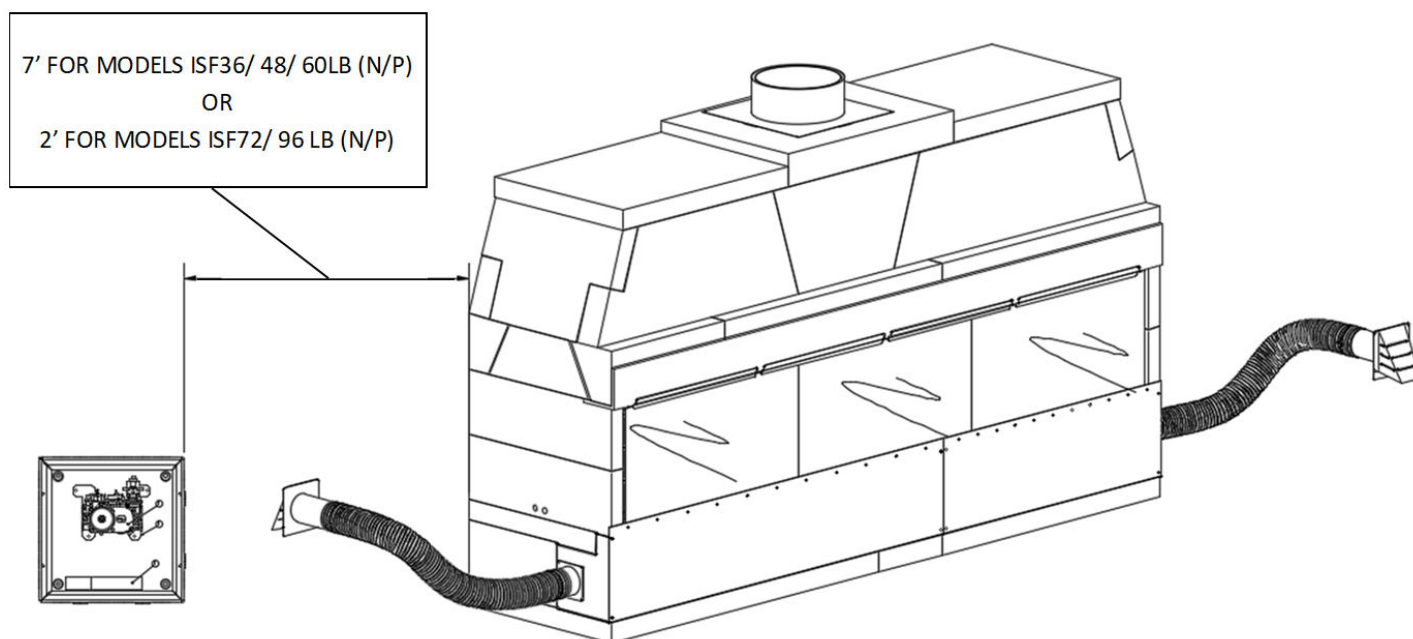

FIGURE 44
- 1) The valve control box comes with an 110" pilot assembly lead; therefore, the box must be mounted within 7' of the fireplace for burner models ISF36/48/60LB (N/P) and within 2' for models ISF72/96LB (N/P). Valve controls are contained in a 12" x 12" x 4" NEMA 1 enclosure. **(Figure 44)**